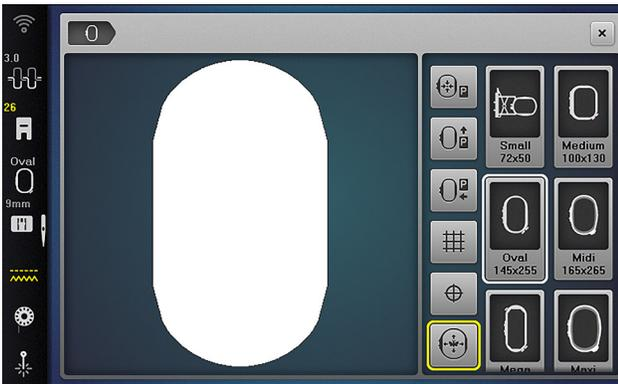

Fig. 3
2. Scroll through the options with your stylus or finger and select Oval Hoop (Fig. 3).